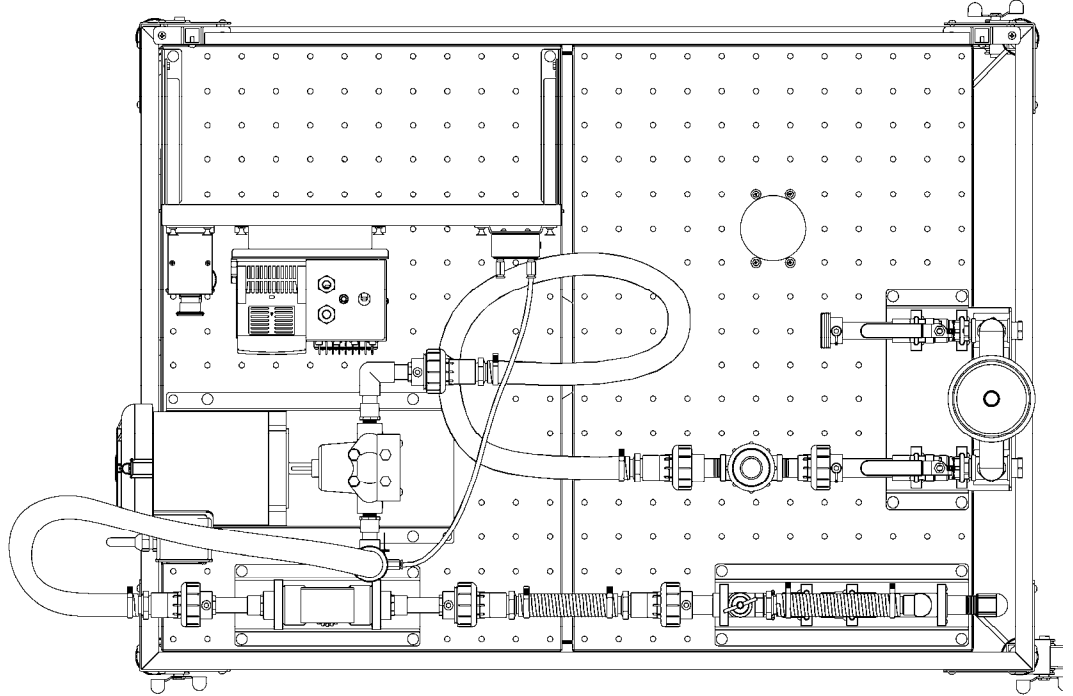

Figure 1-5. Pumping circuit using the Piston Pump.
- 5. Set up the pumping circuit shown in Figure 1-5.